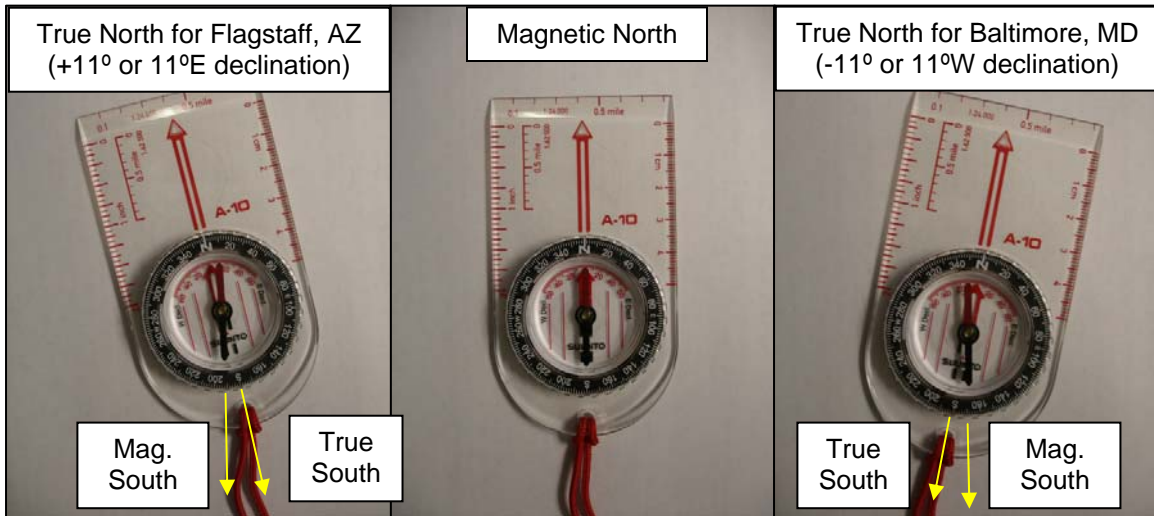

Figure 26
- Using a compass, find magnetic North. Adjust the compass by the Magnetic Declination Value (while the needle stays at magnetic North, rotate the compass counter-clockwise for Easterly (+) declinations, and clockwise for Westerly (-) declinations. See Figure 26.